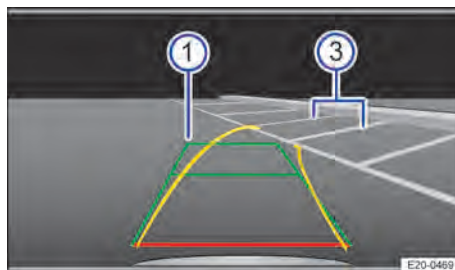

Fig. 116 Infotainment system: driving towards the selected parking space.
5. Steer the vehicle so that the yellow lines lead into the parking space. The green and yellow lines must be aligned with the side limit lines → Fig. 116 ③.